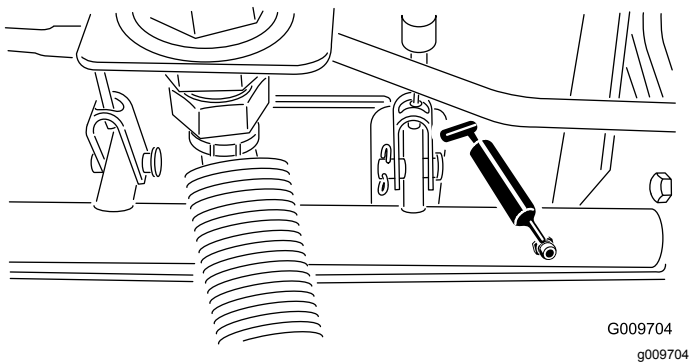

Figure 67
- Brake shaft pivot bearings (5) (Figure 67)